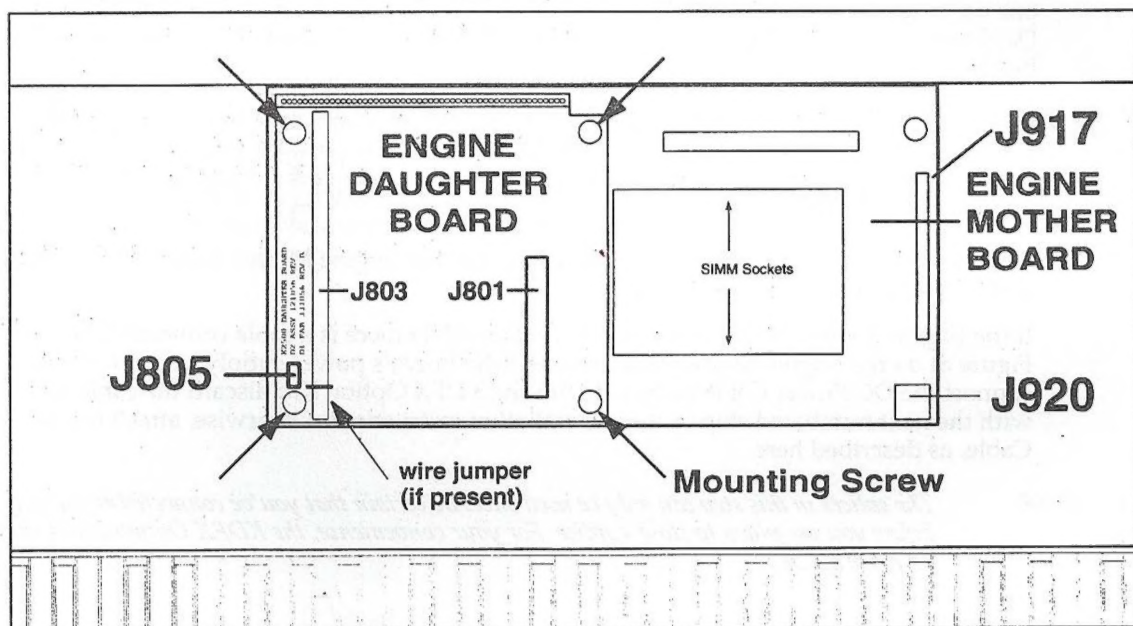

Figure 8. Top view of opened K2500/X, showing locations of Engine Daughter Board screws.
1. Check and record the LCD coarse adjustment setting at J917 pin 4 (see Figure 8) on the Mother Board (pin 1 is ground). The voltage should be between -7 and -10 volts. Since you will have to readjust the LCD contrast after you install the KDFX board, record the voltage in the space provided below:
If the Engine Mother Board is revision G or later AND there is a cable connecting J920 (shown in Figure 8) on the Engine Mother Board to the instrument's power supply, you do not need to connect the DC Power Cable included with the KDFX Option Kit; discard the cable and continue with the next numbered step in these installation instructions. Otherwise, attach the DC Power Cable, as described here.
5. See Figure 8. Locate socket J801 on the Engine Daughter Board. Remove the Ribbon Cable Retaining Clip holding the cable to this socket, but leave the cable in place.
12. See Figure 8, and locate the Engine Daughter Board. Remove the jumper from J805, located to the left of connector J803 on this board. (Rev. C and earlier Engine Daughter Boards do not have J805; instead there is a wire jumper across connector sockets 88 and 89 of J803. Remove and discard this wire jumper.)
Arrows in Figure 2 and Figure 8 show the locations of the four screws.